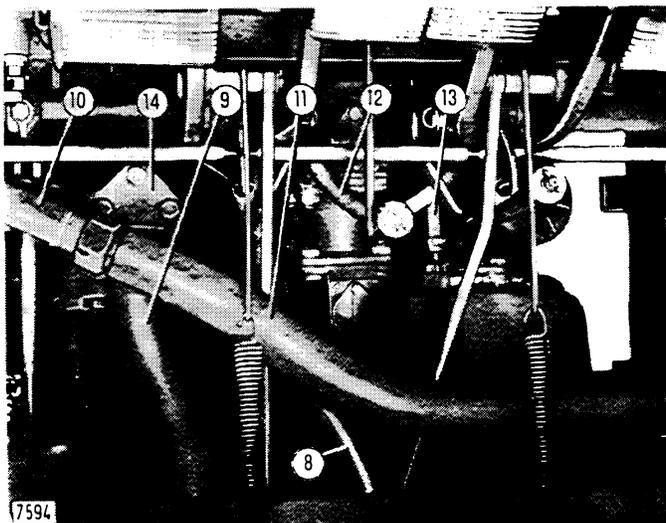

Fig. 7 - Top View of the Torque Converter/Gearbox Assembly
- 7 Disconnect the pipes running from torque converter/gearbox hydraulic pumps to the other transmission units (see Figs. 7 and 8).